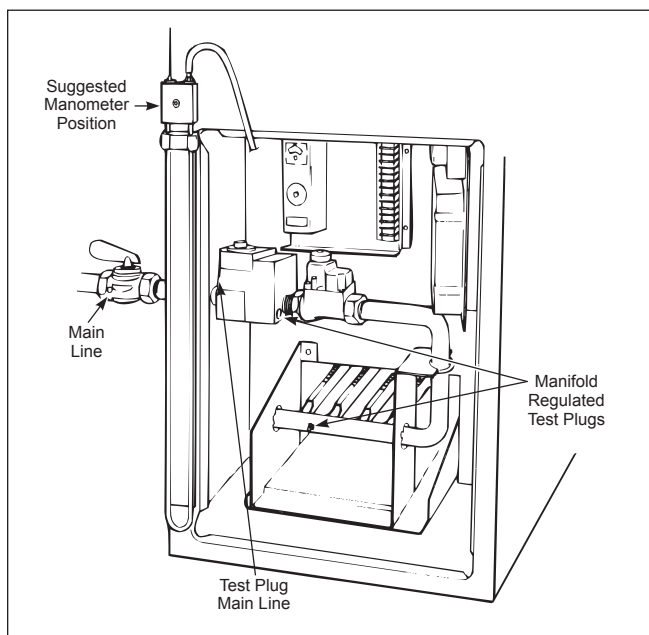

Figure 36. Gas pressure test.
1. Attach a manometer (or a dry gas pressure gauge) to heater jacket (see Figure 36).
4. Remove the 1/8 inch (3.2 mm) NPT test plug on the outlet side of the manifold, and replace it with the 1/8 inch (3.2 mm) NPT fitting from the manometer kit, (see Figure 36).